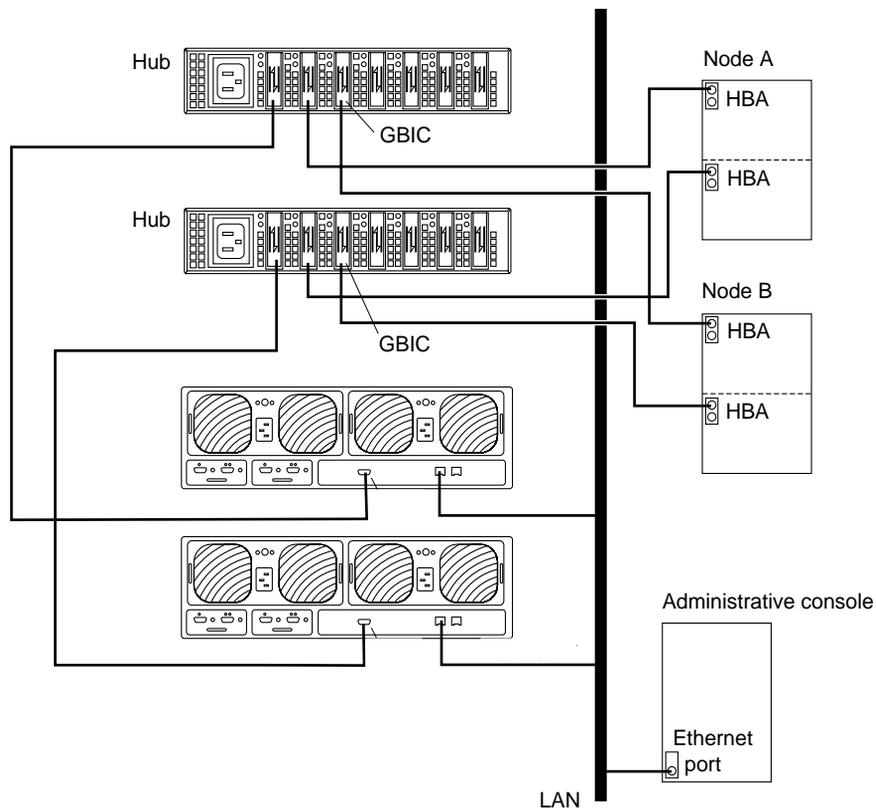

FIGURE 8-4 Adding a StorEdge T3/T3+ Array in a Single-Controller Configuration
36. If necessary, install a GBIC as shown in FIGURE 8-4.
37. If necessary, connect a fiber-optic cable between the Sun StorEdge FC-100 hub and Node B as shown in FIGURE 8-4.